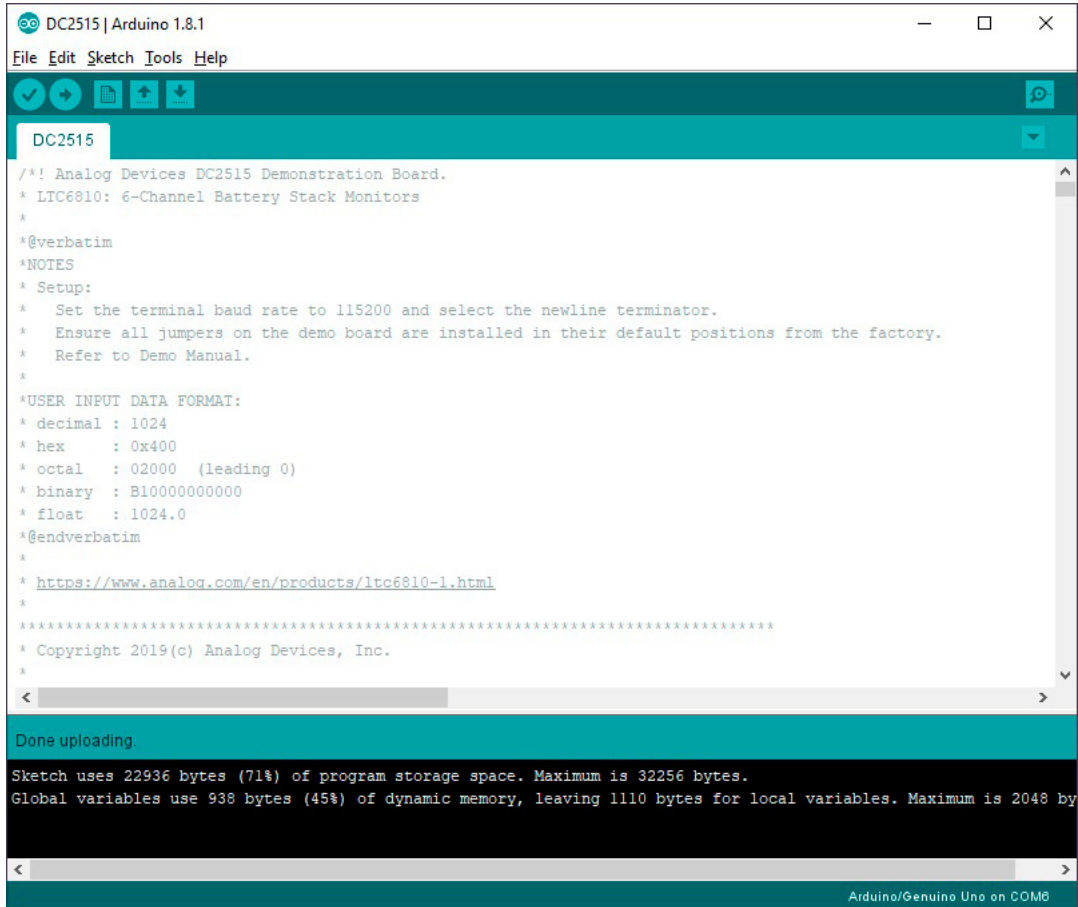

Figure 9. Uploading DC2515 Sketch
7. Upload the **DC2515** sketch onto the DC2026 by clicking on the **Upload** button on the top left corner. When this process is completed there will be a **Done Uploading** message on the bottom left corner (see Figure 9).